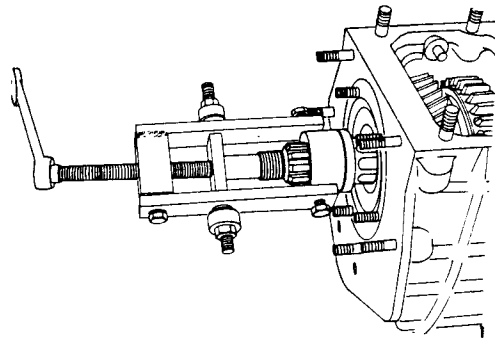

Fig H1.61
(4) Refer to Fig H1.61. Using special tool RO1004 remove the spacer bush (2).